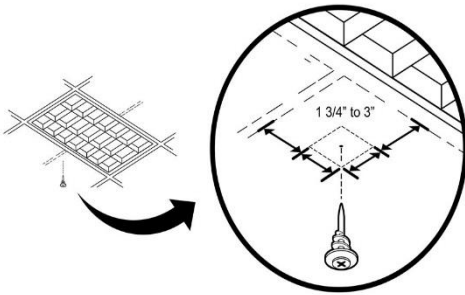

Figure 1
Step 3: Determine the location of the sensor in the fixture. Figure 1.